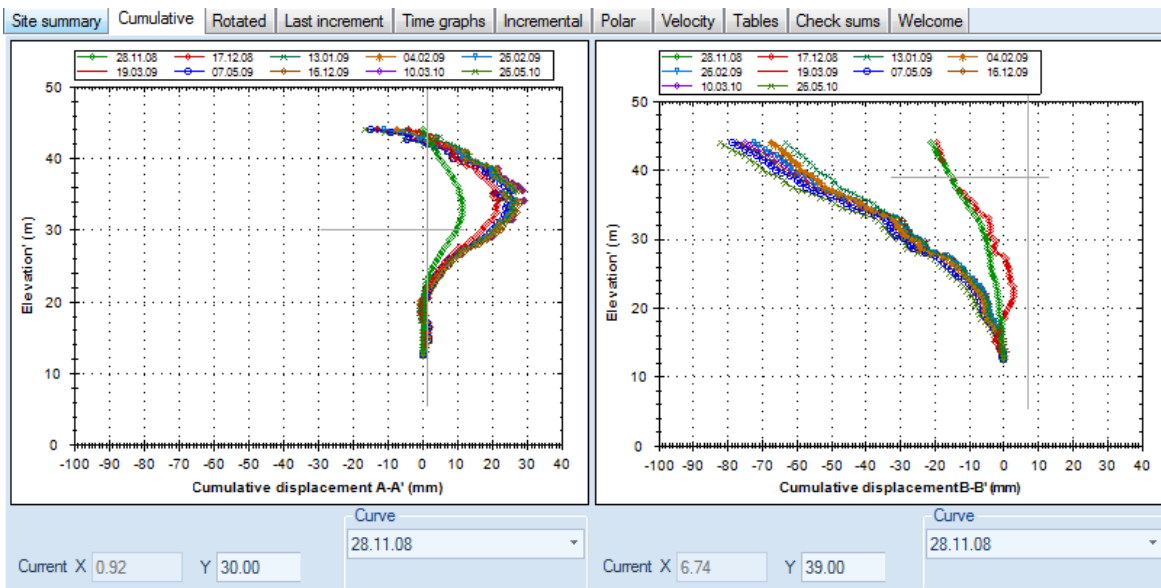

Figure 7.3: Cumulative displacements vs. elevation
- **Cumulative displacements tab:** These are the total displacements in each axis from the reference reading (Fig. 7.3).